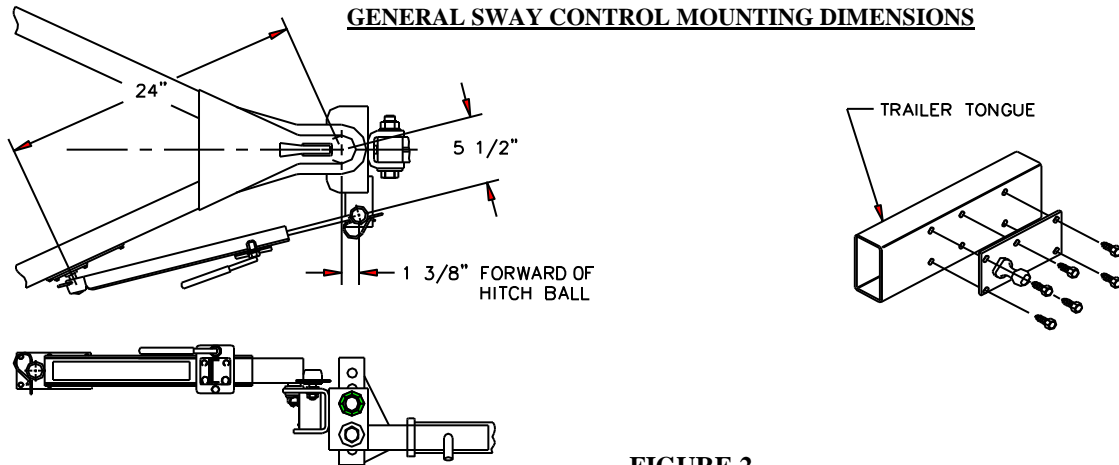

FIGURE 2.
- Mount sway control ball (1a) using nut (1b) and lock washer (1c) to hitch as shown in Figure 2 and torque to 100 lb.-ft. If necessary notch and weld ball mounting bar (4) (sold separately) into position shown.
- Measure and mark a point on the trailer tongue 24" from the center of the hitch ball as shown in Figure 2.
- Align the center of the ball of the ball/plate assembly (3) with the mark on the trailer tongue and center punch four hole locations. Drill four holes using an 11/32 (.343) drill bit for 1/8" (.125) or thicker trailer tongue material, or a 9/32 (.281) drill bit for thinner material.
- Position the ball/plate assembly (3) over the drilled holes and drive four of the self tapping screws (2a) through the plate and into the trailer tongue. Drill the two remaining holes and install the screws.